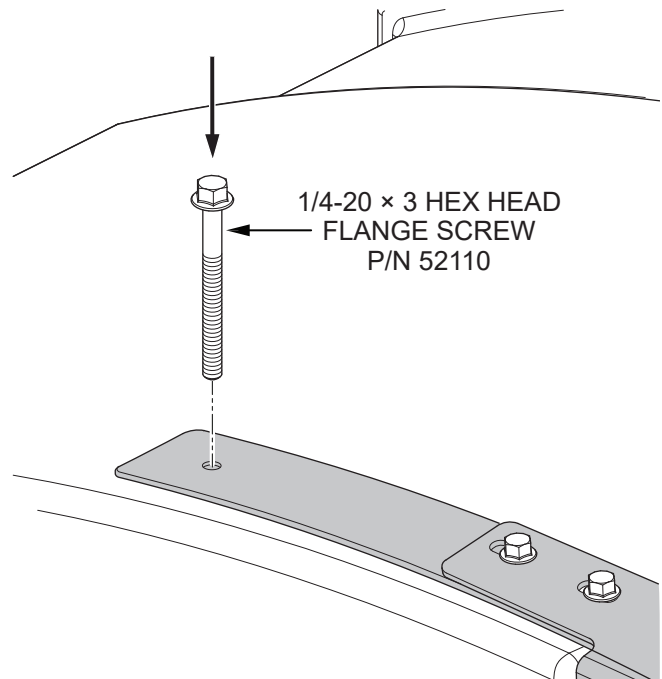

Figure 11. Insert Screw Into Water Tank (Rear)
1. Insert a **1/4-20 × 3 hex head flange screw (P/N 52110)** into the water tank through one of the new bracket holes at the rear end of the tank. See Figure 11.